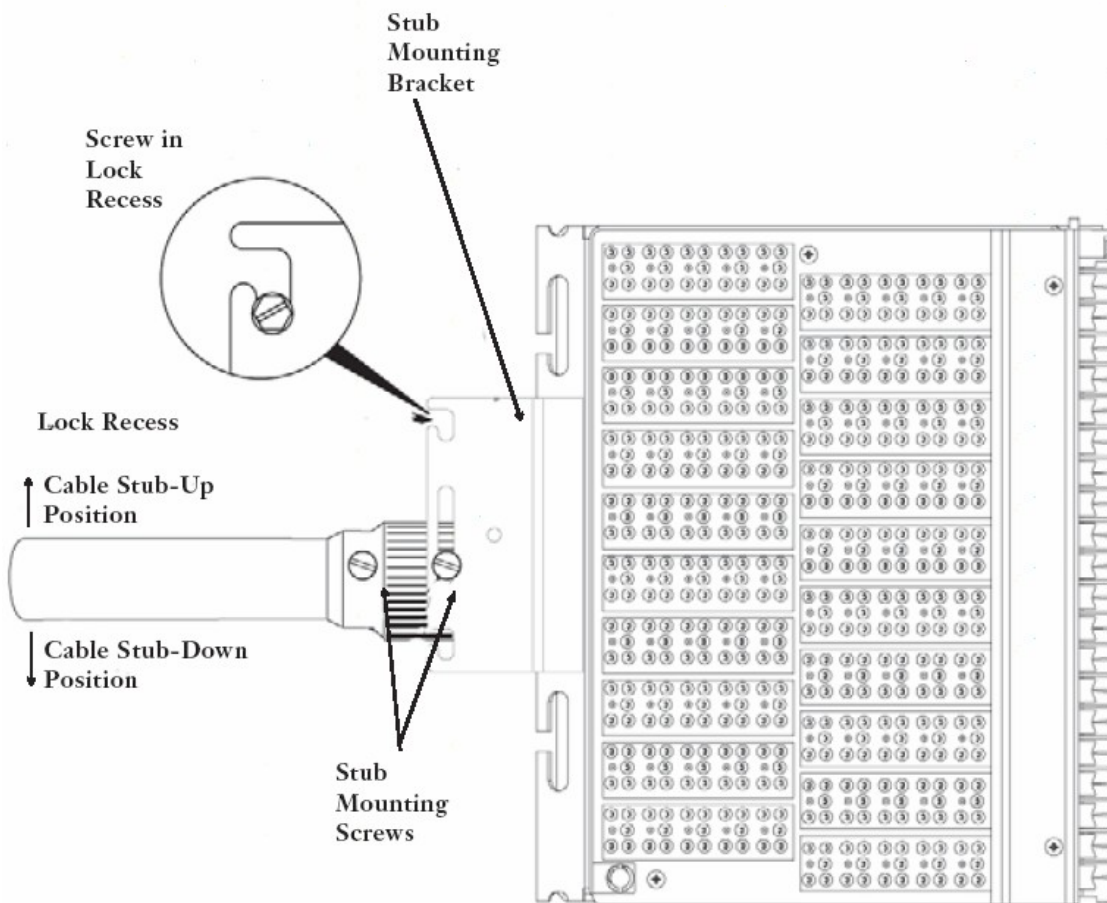

Figure 2
3.1 Loosen two screws on stub mounting bracket (Figure 2).